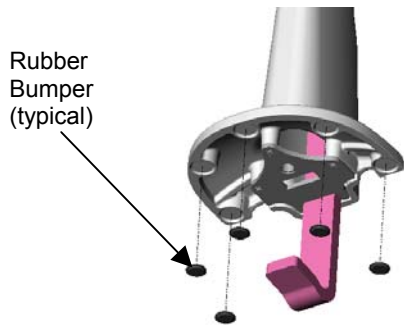

Figure 1. Install Rubber Bumpers
1. Install five rubber bumpers on the bottom of the stand (see Figure 1).